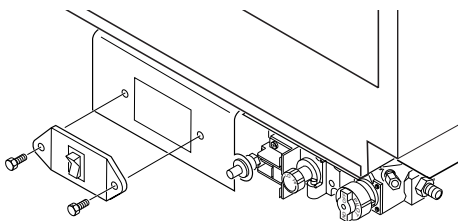

Figure 34 - Removing Switch Plate
2. Unscrew switch plate (see Figure 34).